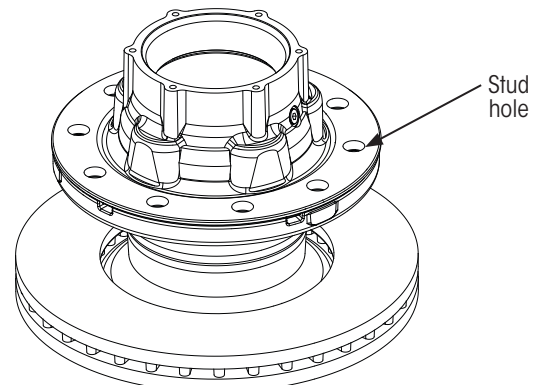

Figure 14: Aligning hub and rotor
2. **Gently place** the hub on the rotor mounting face and carefully align the stud holes (Figure 14).